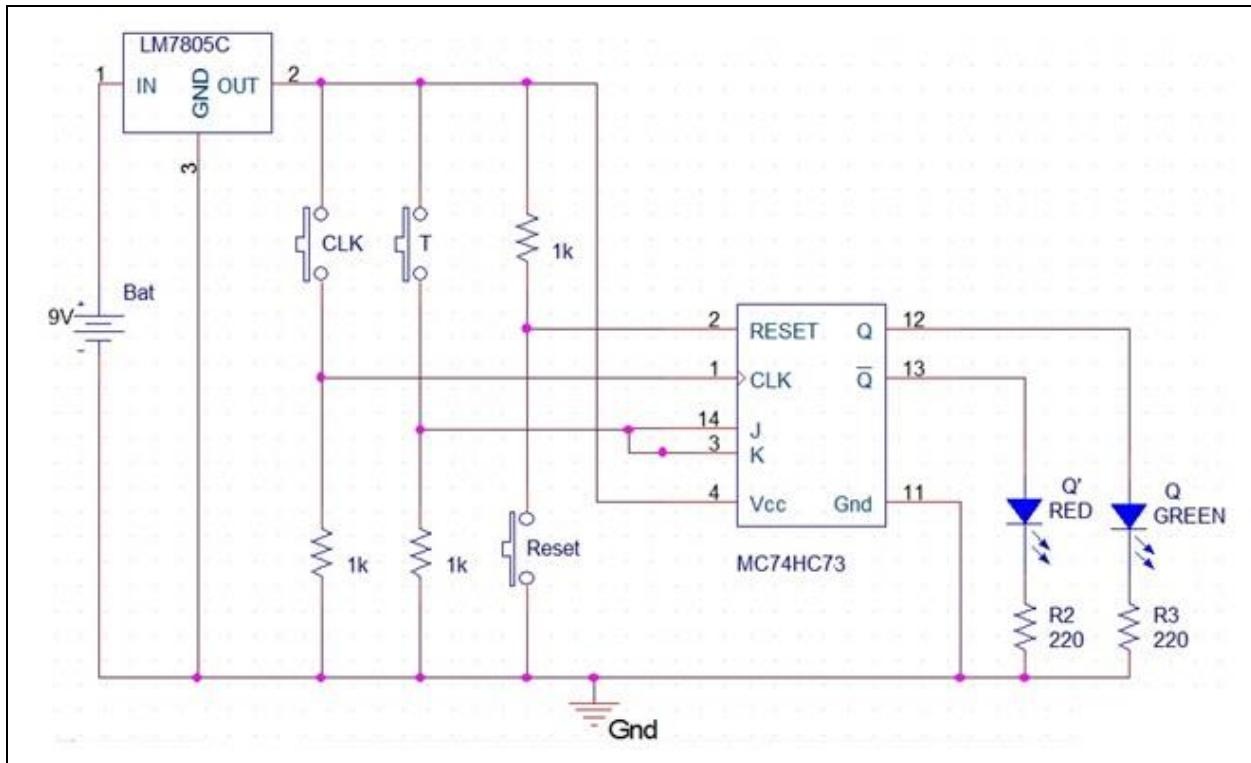

Figure 6: Circuit diagram of T Flip Flop
The circuit diagram for T flip flop with MC74HC73A IC is shown in Figure 6. IC MC74HC73A is used for demonstrating T flip-flop circuit, which has a Dual JK flip-flop with RESET inside. The J and K inputs will be shorted and used as a T input.
1. Implement the circuit of T flip-flop by means of J-K flip-flop according to the given schematic diagram shown in Figure 6.